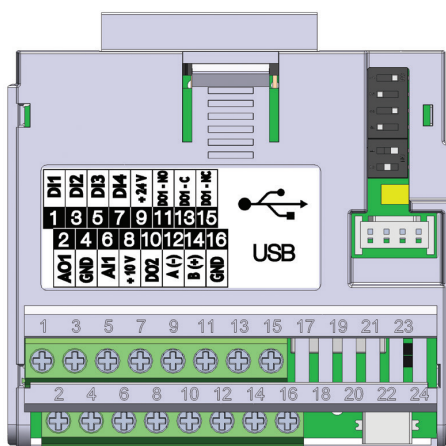

Figure 19.3: Plug-in module CFW500-CUSB
The CFW500-CUSB plug-in module has Serial (1) interface through RS-485 port at terminals 12 (A1-) and 14 (B1+), as well as the Serial (2) interface through USB port at standard connector mini USB (mini B), see Figure 19.3 on page 19-1.